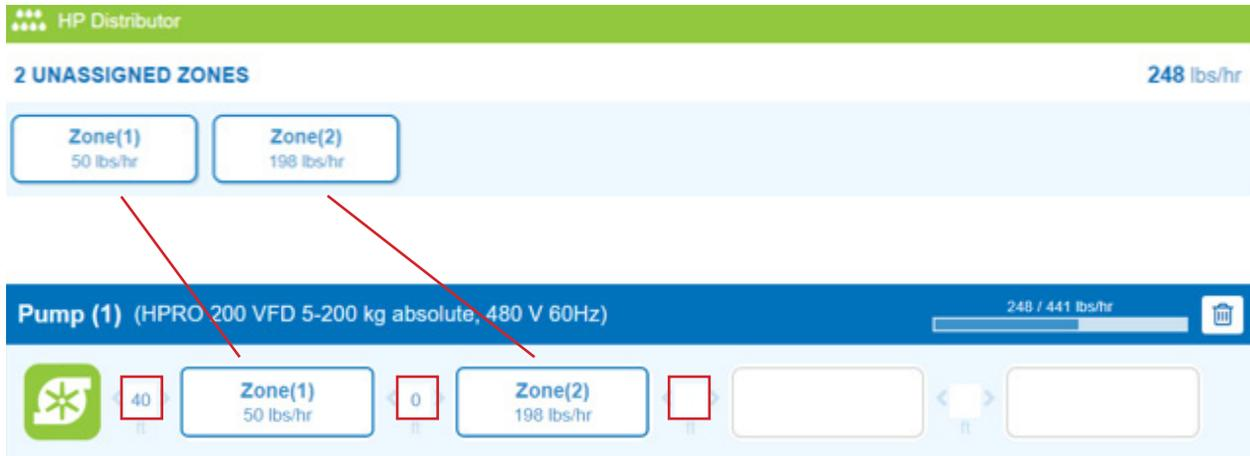

Figure 5: Drag any unassigned zones to the pump you will use to feed them. Red boxes indicate where to enter distances between components.
3. Drag any unassigned zones to the pump you will use to feed them. Spray capacity of the units in relation to the capacity of the pump skid is shown. (See *Figure 5*) Input the distance starting from the pump skid to the first unit and then from the first unit to the second and so on. These distances will determine: